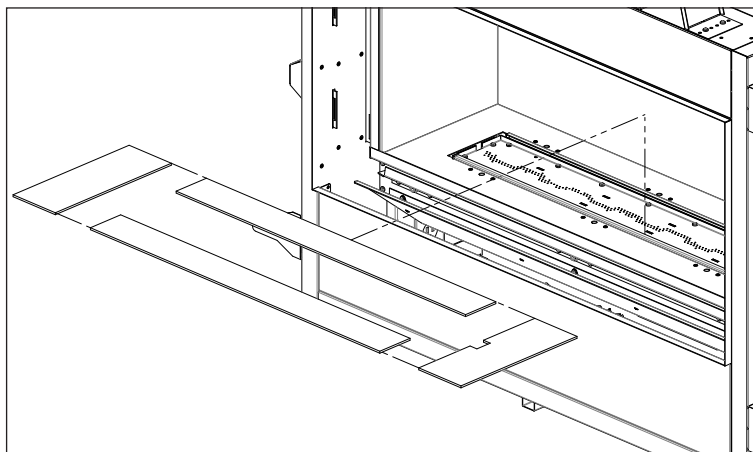

Figure 71: Burner Bezel Placement
2. Place the bezels directly onto the burner platform as shown in Figure 71. No fasteners are required.